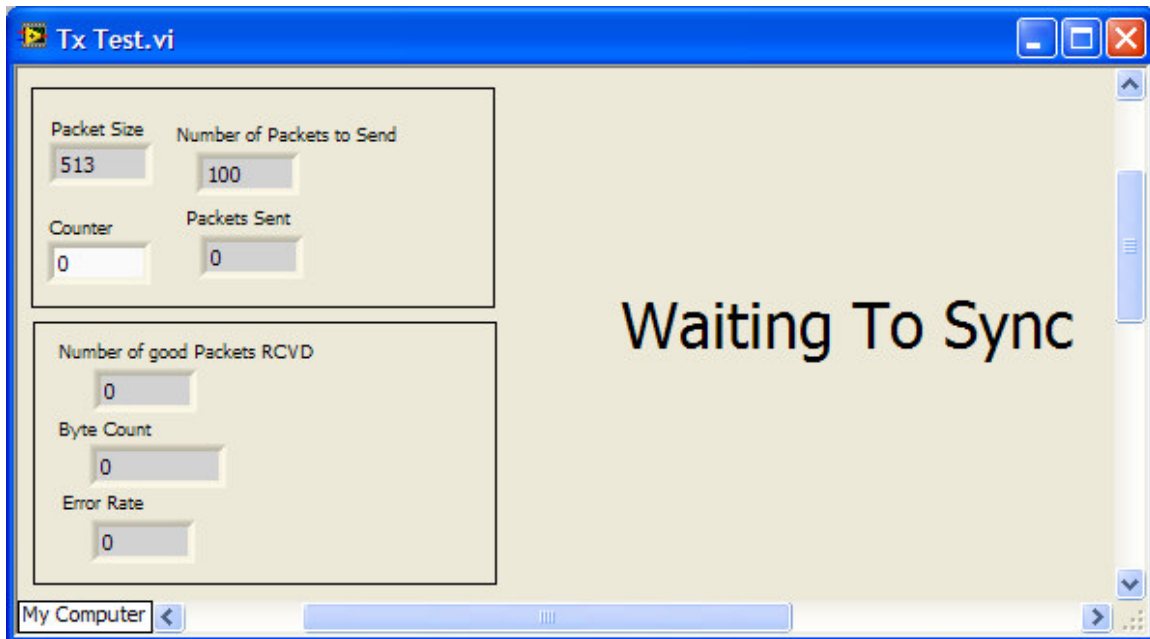
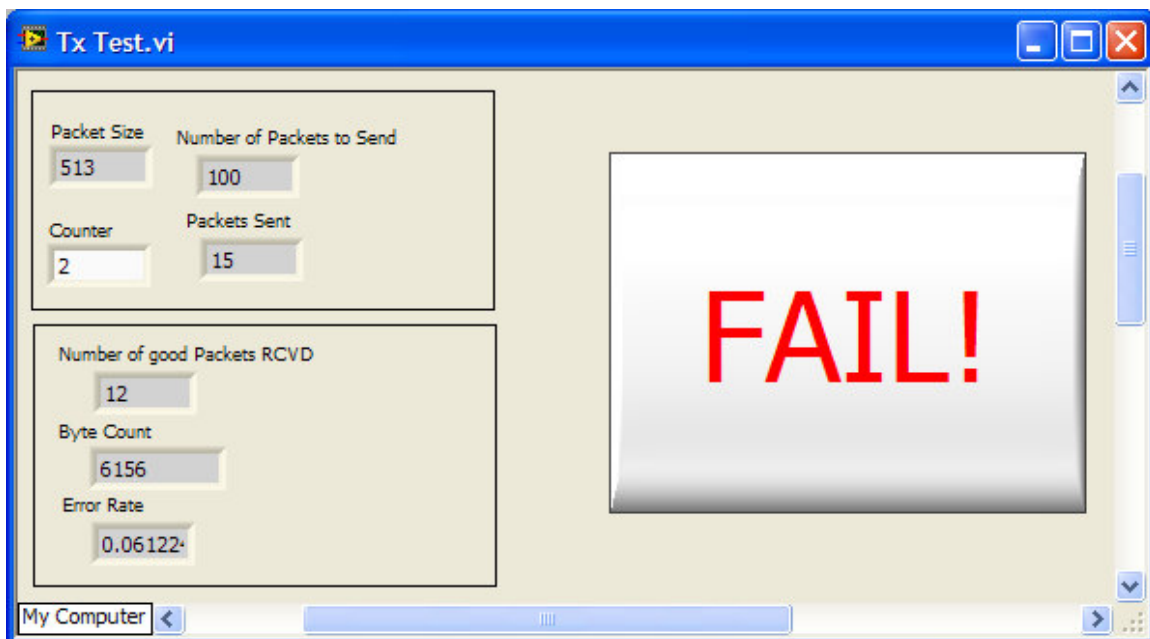

Figure 5-5 Screenshot of the transmit Packet Error Rate test waiting to synchronize.
Figure 5-6 Screenshot of the transmit Packet Error Rate after synchronized.
- e) The next procession of tests will test the DUT transmitter by completing three packet error rate (PET) tests at three different transmit powers: 5mW, 50mW and 125mW. For each PET the dialog in figure 5-5 will pop up. First a link is established. After a link is established a “FAIL!” button is visible as in figure 5-6. Then 100 packets are sent from the DUT to the Golden board. The packets received at the golden board are checked and counted. At any point the user may press the Fail button to abort the remaining tests and fail the pcb. If at least 95 packets are registered, then the test passed otherwise the test failed.